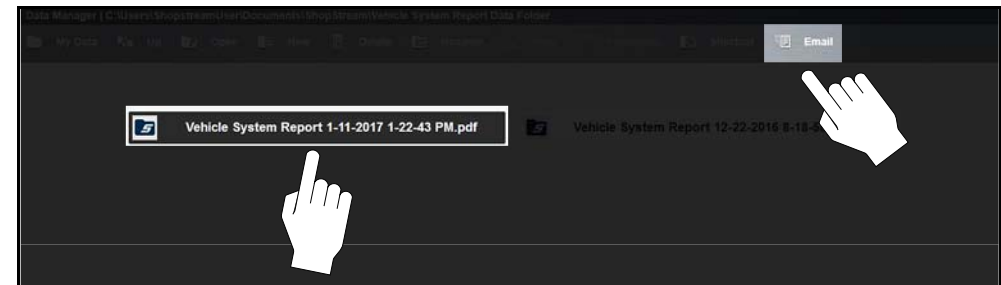

Figure 12-3
1. From the Data Manager main screen, select a file from within one of the folders (e.g. Camera, Scanner Data, Scope Multimeter, etc). In this example (Figure 12-3), a Vehicle Systems Report was chosen from the Vehicle Systems Report Data Folder.